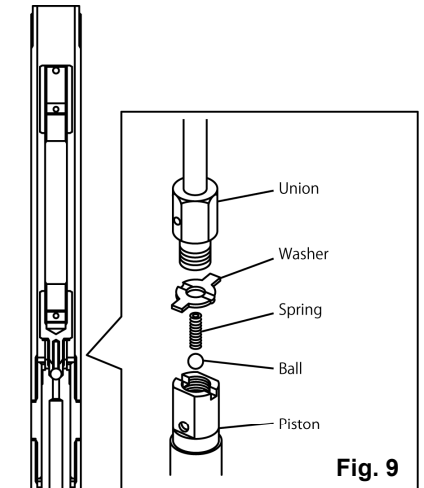

Fig. 9
- 7) Set a pipe wrench on notched part of the suction tube and unscrew it. The intake valve can be removed. (Fig. 9)
- 8) Flatten the bending part of the washer that fixes the union and the piston. Separate the union and the piston with a spanner and then remove the ball and the spring. (Fig. 9)